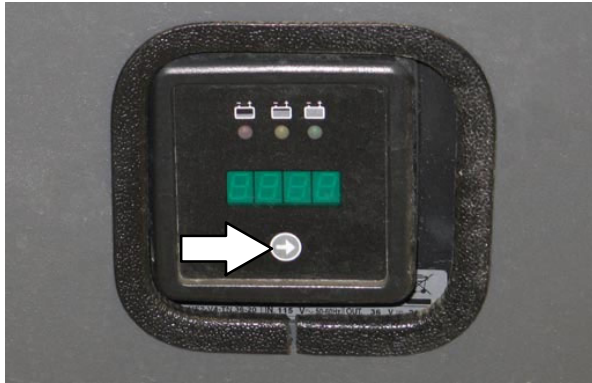

FIG. 3
11. Press the arrow button to verify the on-board battery charger (1) codes/settings. Refer to the MAINTENANCE section of the Operator Manual for settings/codes. (Fig. 3)